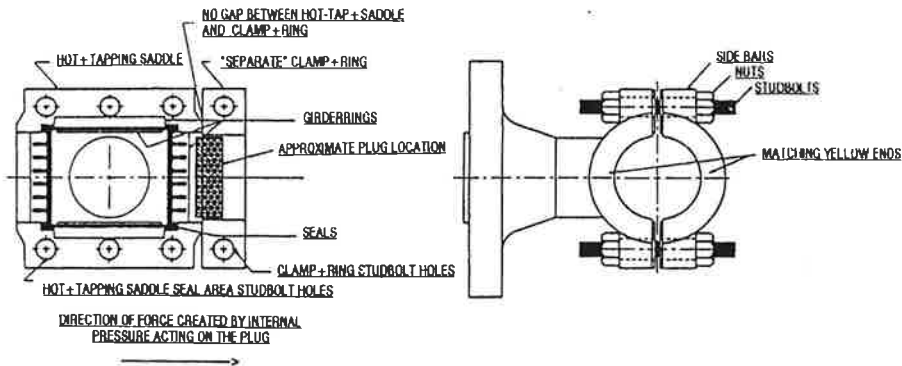

Fig. 2
The **SEPARATE** type uses Clamp+Ring that is not connected to the Hot-Tapping+Saddle. (See Figure 2)
3. Assemble the Plidco Hot-Tapping+Saddle around the pipe making sure the yellow painted ends are matched and that the fitting is centered over the area to be hot tapped. If the SEPARATE Clamp+Ring is to be used, it must be assembled adjacent to the Plidco Hot-Tapping+Saddle at the end nearest to where the plug will be positioned. There can be no gap between the Plidco Hot-Tapping+Saddle and the SEPARATE Clamp+Ring. The forces acting on the plug are transferred to the Clamp+Ring thereby preventing axial movement of the Plidco Hot-Tapping+Saddle. (See Figures 2 & 3)